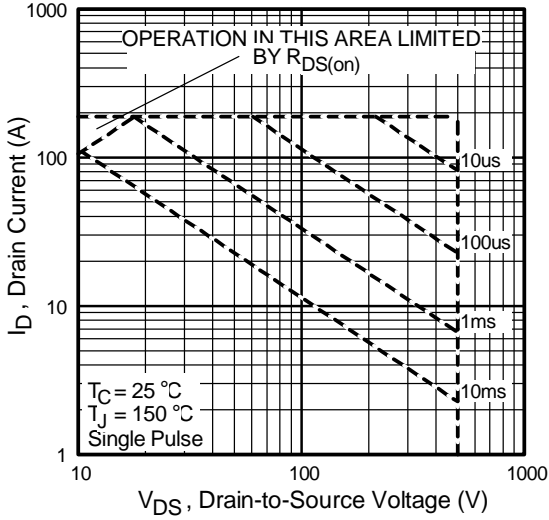

Fig 12. Maximum Safe Operating Area
- ② Starting $T_J = 25^\circ\text{C}$, $L = 0.86\text{mH}$, $R_G = 25\Omega$, $I_{AS} = 46A$. (See Figure 12).
- ③ $I_{SD} \leq 46A$, $di/dt \leq 367A/\mu s$, $V_{DD} \leq V_{(BR)DSS}$, $T_J \leq 150^\circ\text{C}$.
- ④ Pulse width $\leq 400\mu s$; duty cycle $\leq 2\%$.
- ⑤ $C_{oss\ eff.}$ is a fixed capacitance that gives the same charging time as C_{oss} while V_{DS} is rising from 0 to 80% V_{DSS} .